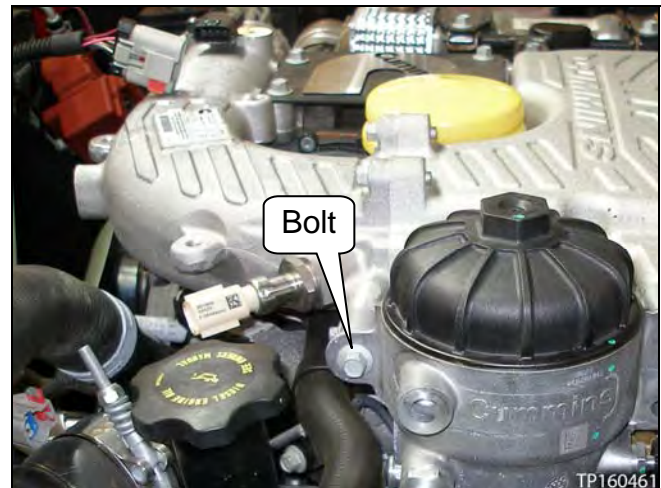

Figure 25
e. Remove the last stage 2 fuel filter assembly bolt (see Figure 25).